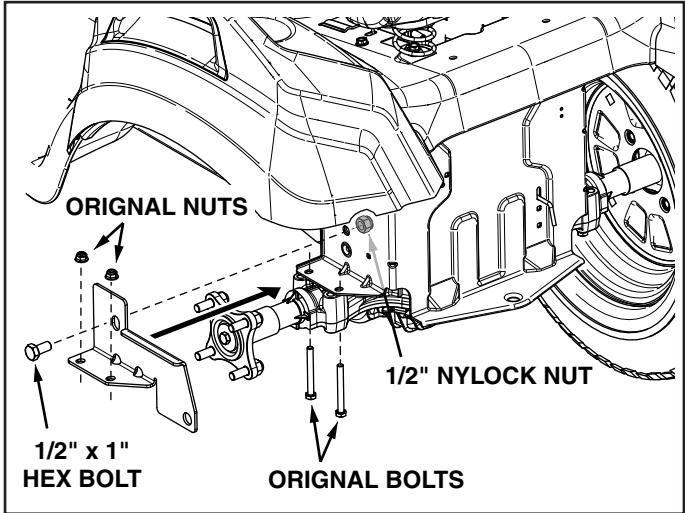

FIGURE 5
7. Remove the two bolts that fasten the transmission to the left side of the tractor. **Do not** remove the bolts on the right side of the tractor until the bolts on the left side have been re-installed and tightened. See figure 5.
8. Place the Left Hand Hitch Support Bracket against the side of the tractor, aligning the holes in the bracket with the empty holes in the transmission. Re-install the two bolts and nuts that were removed from the transmission. Next, attach the bracket to the side of the tractor using a 1/2" x 1" hex bolt and 1/2" nylock nut. Tighten all bolts and nuts are securely. See figure 5.
**NOTE:** Wheel hidden for clarity in figure 5.